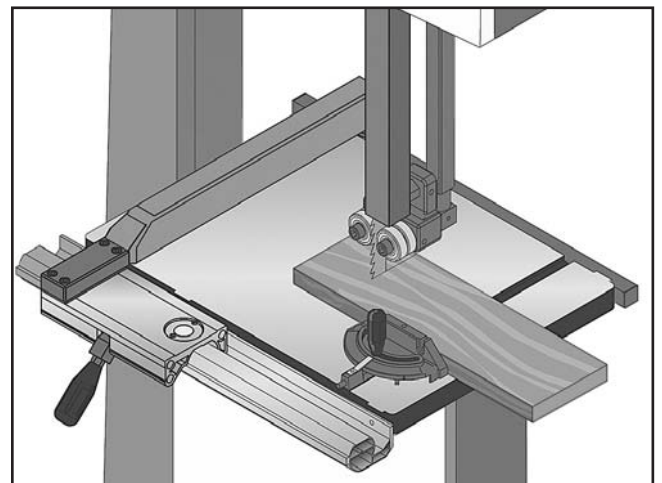

Figure 53. Example of crosscutting operation with miter gauge.
5. After all safety precautions have been met, turn the bandsaw **ON**. Slowly feed the workpiece into the blade and continue the cut until the blade is all the way through the workpiece. **Figure 53** shows a typical crosscutting operation.